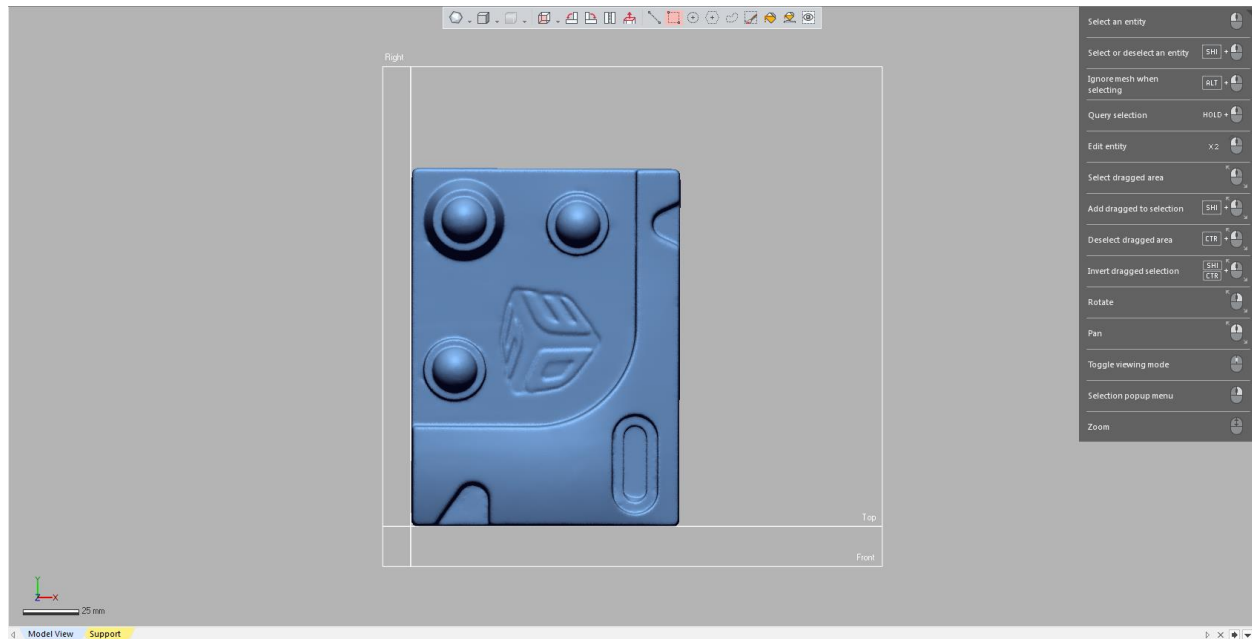

Figure 2
- Click **Open**. The file is loaded and displayed in the **Model View**, see **Figure 2**.